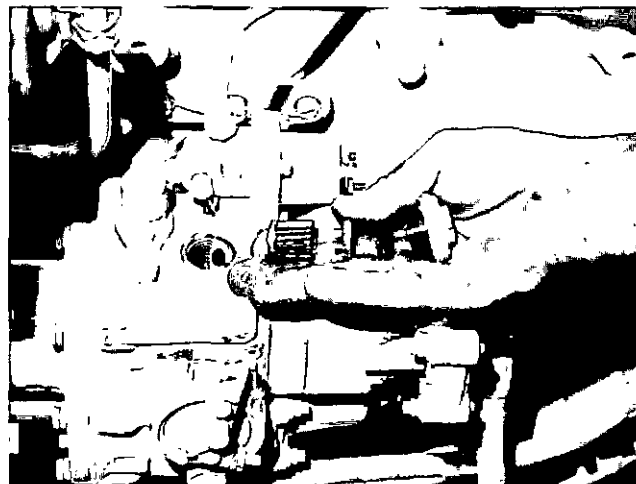

Fig. 5-31, V41911. Fuel pump filter screen
1. Loosen and remove cap at top of fuel pump. Remove spring. Lift out filter screen assembly. Fig. 5-31.